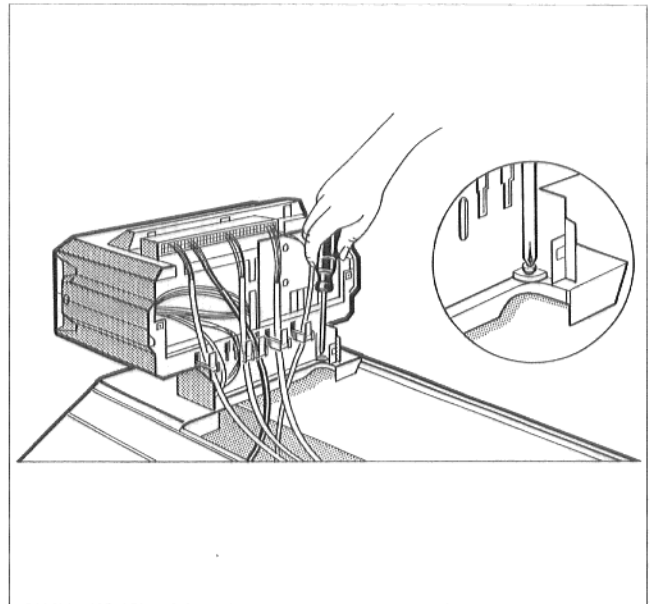

Fig. 14
- Screw the control panel tight onto the front part of the boiler jacket with two screws in the rear corners of the cable passageway (Fig. 14).